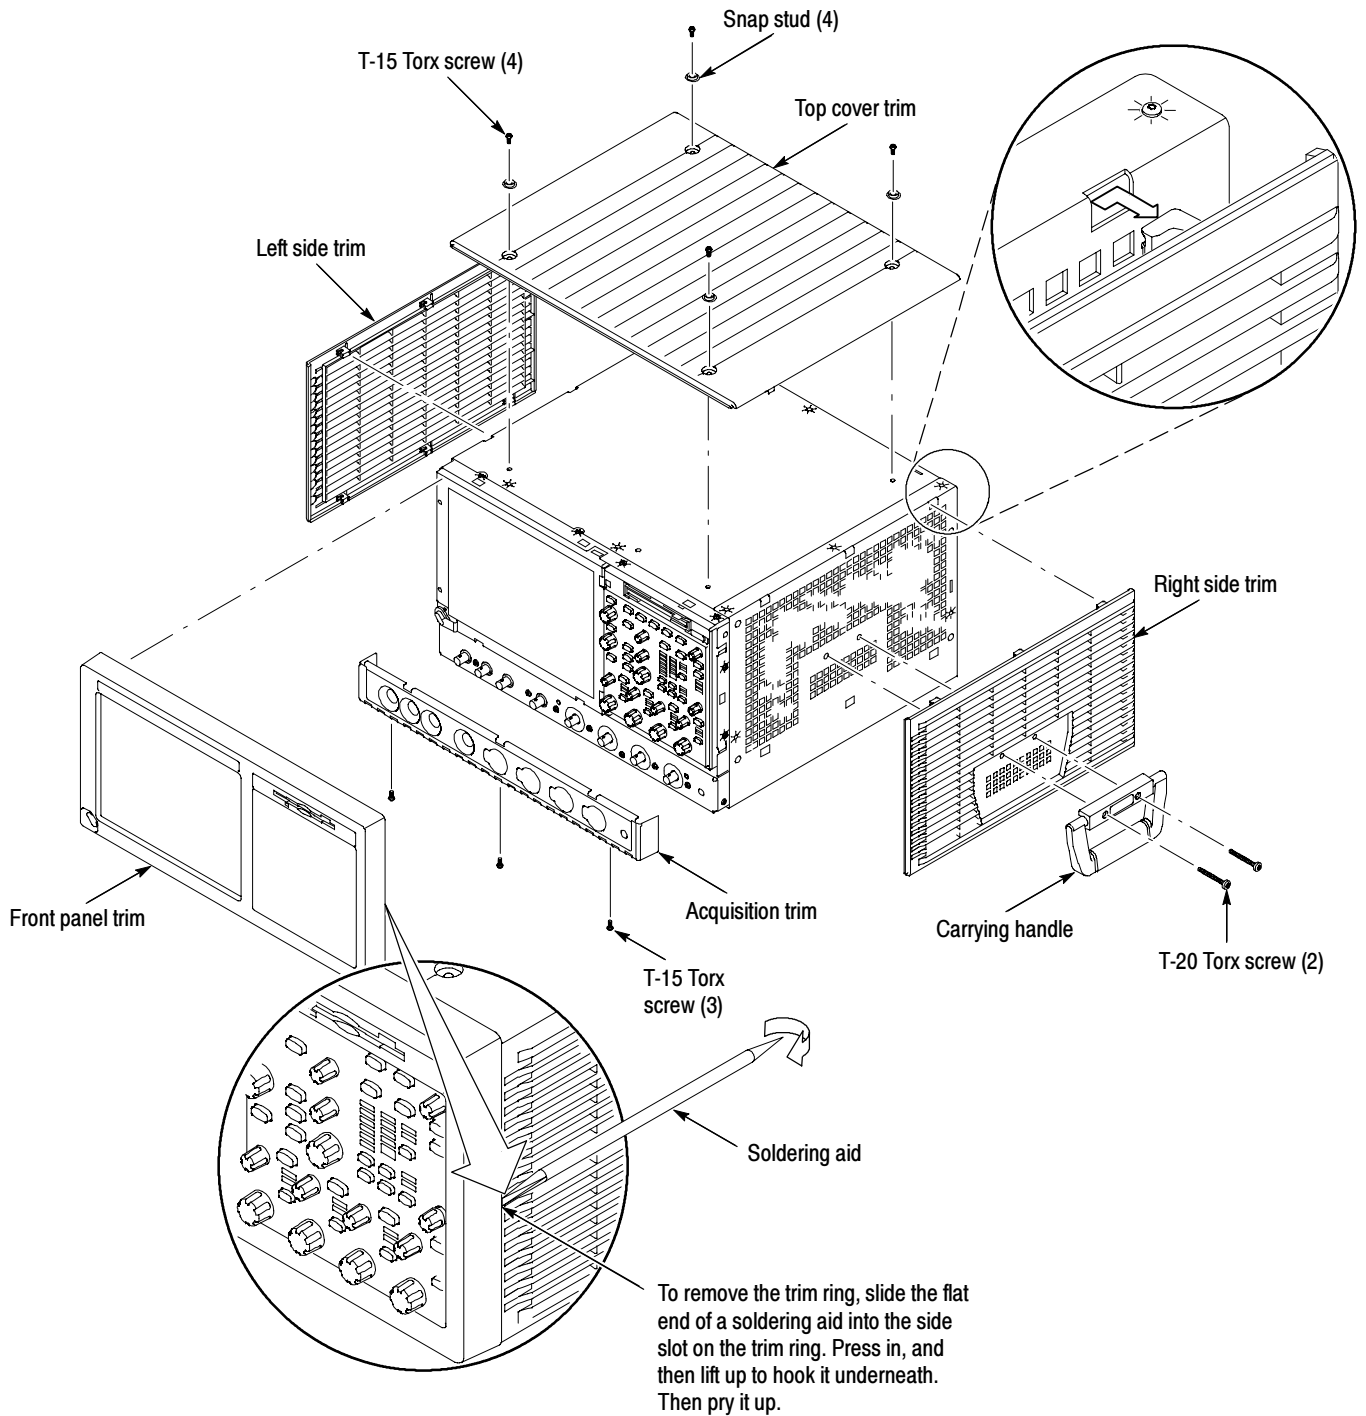

Figure 3: Trim removal
1. *Locate module to be removed:* Locate the Trim in the locator diagram. See Figure 3, on page 9.
2. *Remove the front panel trim:* Use Figure 3 on page 9 as a guide.
3. *Remove the acquisition trim:* Use Figure 3 on page 9 as a guide.
4. *Remove the top cover trim:* Use Figure 3 on page 9 as a guide.
5. *Remove the carrying handle and the right/left side trim panels:* Use Figure 3 on page 9 as a guide.